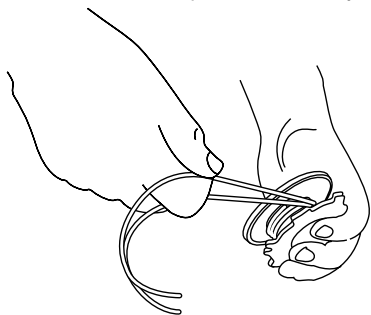

Fig. 17
7. Wind the lines in tight even layers, onto the reel (Fig. 17). Wind the line in the direction indicated on the inner reel. Place your index finger between the two lines to stop the lines from overlapping. Do not overlap the ends of the line.